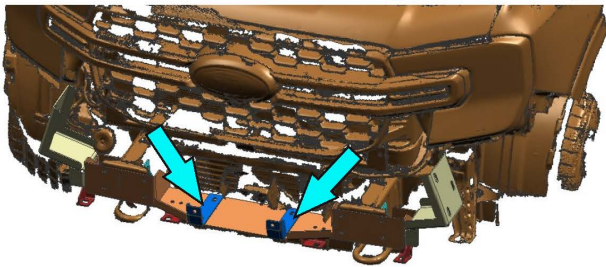

Fig.47
47. Install left and right winch hawse brackets (item 22, 23) on winch bracket (fig. 47.)